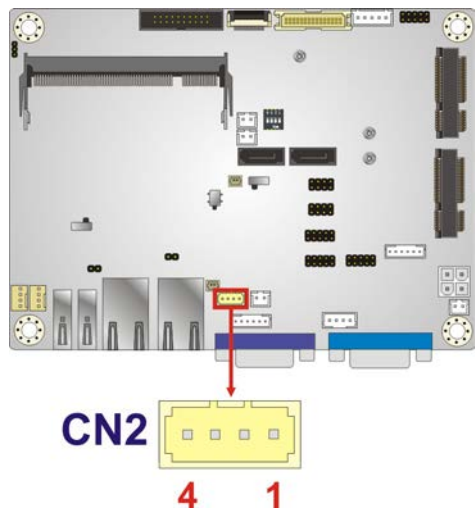

Figure 3-22: SMBus Connectors Location
- CN Location:** See **Figure 3-22**